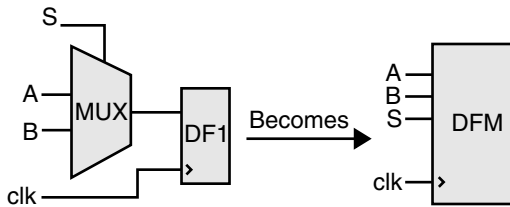

Figure 3-2. Combined Combinatorial and Sequential Macros
2. It combines a combinatorial macro and a sequential macro into a single sequential macro. For example, a combinatorial macro “MUX” and a sequential macro “DF1” are combined into a single sequential macro “DFM,” shown in Figure 3-2. Combinatorial Module Reduction is not available for ACT 1 or 40MX devices because these